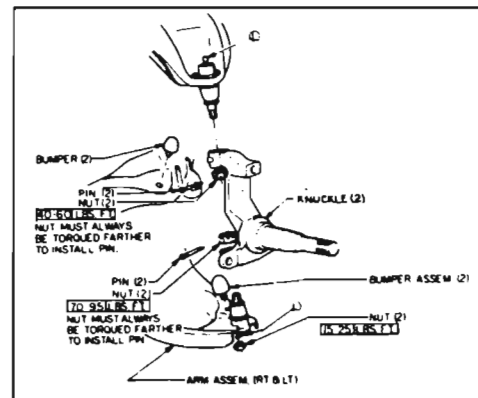

Figure 7-28—Steering Knuckle Detail
5. Support lower control arm and remove nuts from ball joint tapered studs. Raise upper control arm and remove tapered studs from knuckle. Remove steering knuckle. See Figure 7-28.
2. Align the cotter pin holes fore and aft and install the castellated nuts. Torque to 50 ft. lbs. on the upper nut and 78 ft. lbs. on the lower nut. See Figure 7-28.